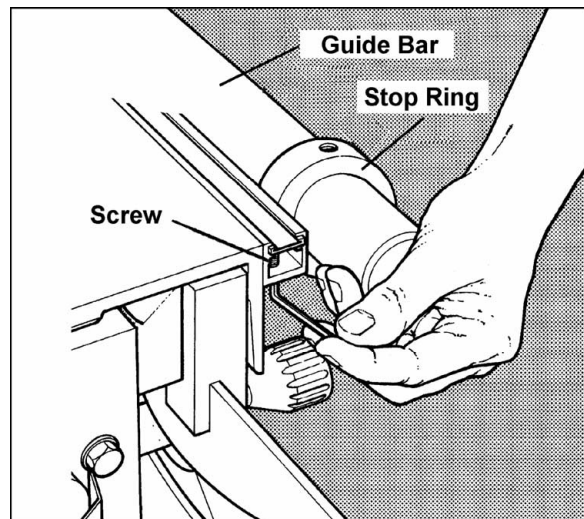

Figure 39
2. Loosen the screw on the scale, shown in Figure 39. To avoid the fence contacting the rotating saw blade, the stop ring has to be adjusted.